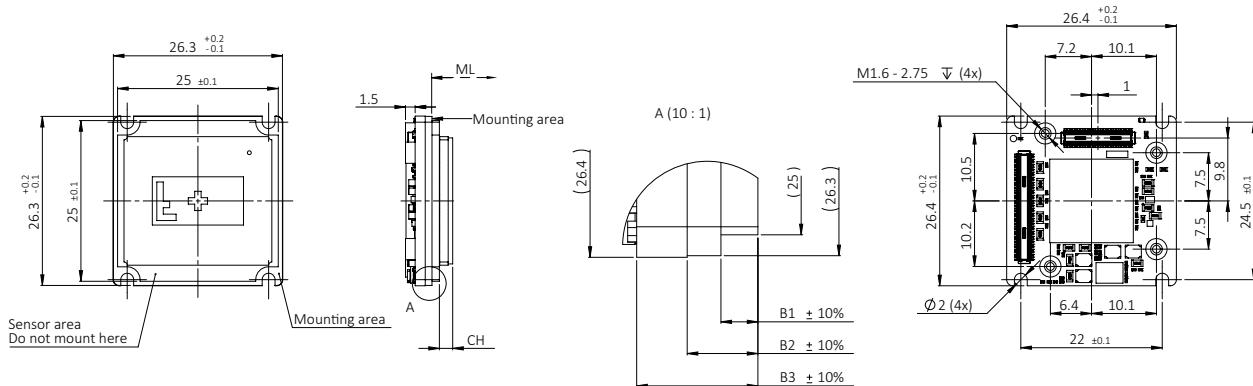

Figure 49: Alvium G1 BL No Mount dimensions
Dimensions that are common between different models are shown in Figure 49, model specific dimensions are listed in Table 74. **Mechanical length** (ML) defines the mechanical distance from the mounting area to the lens mount front flange, without optical filter. **Components height** (CH) relates to the electronic components with maximum height, sometimes the sensor.